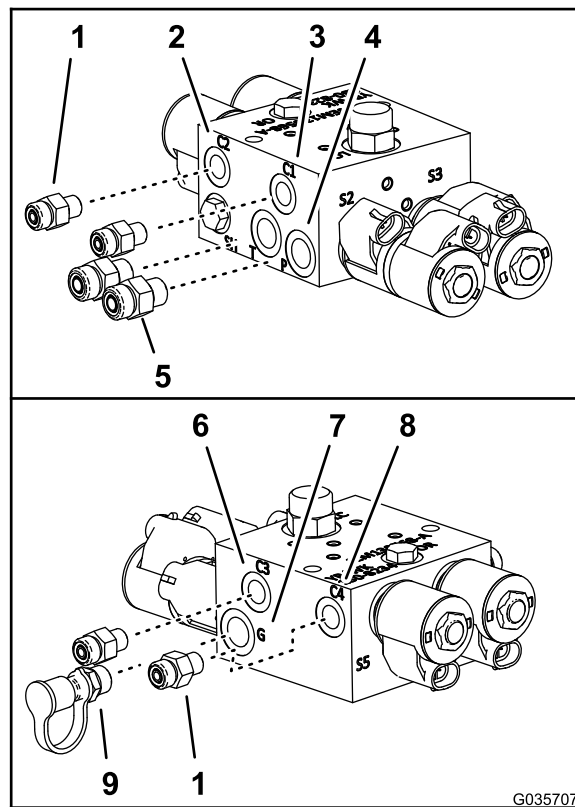

Figure 11
5. At the new lift-cylinder manifold, assemble the straight-hydraulic fittings (Figure 11) that you removed in step 3 into port-P and port-T.
6. Assemble the 4 straight-hydraulic fitting from the ultra sonic boom leveling kit into ports C1, C2, C3, and C4 of the new lift-cylinder manifold (Figure 11).
7. Assemble the diagnostic fitting and cap that you removed in step 4 into port-G of the new lift-cylinder manifold (Figure 11).